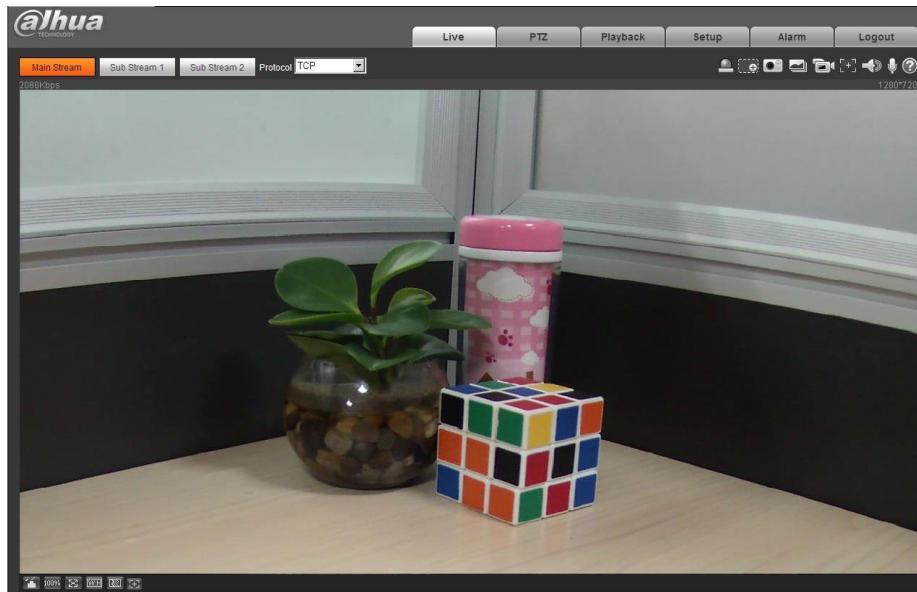

Figure 3-4
- Step 3** Click Here to Download Plug-in, and then install controls according to the system prompt. See Figure 3-4 for the WEB main interface.